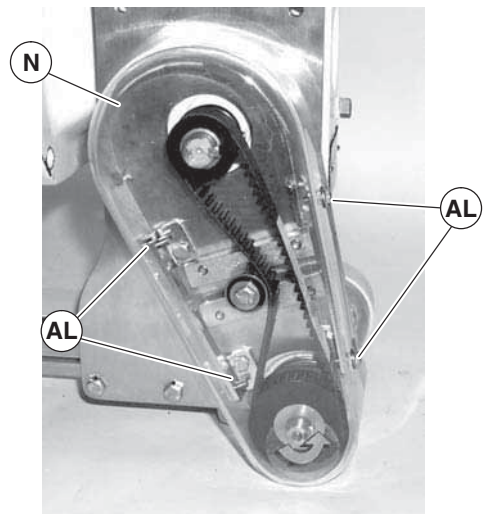

Figure 33
- Loosen four screws (Figure 33, item AL) and remove cover (N).
Do not over-tighten screws (Figure 33, item AL).
- Attach cover (Figure 33, item N) with four (4) screws (AL). Tighten screws to 35 in-lb (4 Nm).